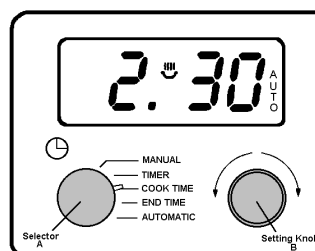

Fig.8
Press and hold button (1) and the display will count down in one minute intervals to 0:00. See Fig. 8.
- iii) Turn the selector (A) to 'Cook Time'. The display will show 0.00 and cookpot (🍲) symbol. Turn setting knob (B) to the number of hours and minutes you wish the food to cook e.g. 2 hrs 30 mins. Fig 8.